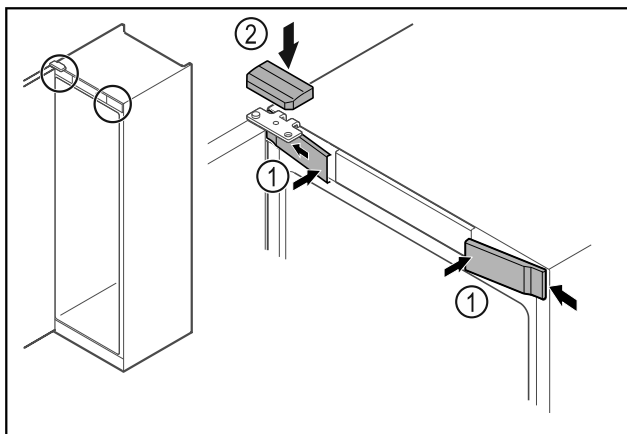

Fig. 27
- Hook in the front covers Fig. 27 (1) on the side and snap them into place.
- Snap on the top cover Fig. 27 (2) from above.